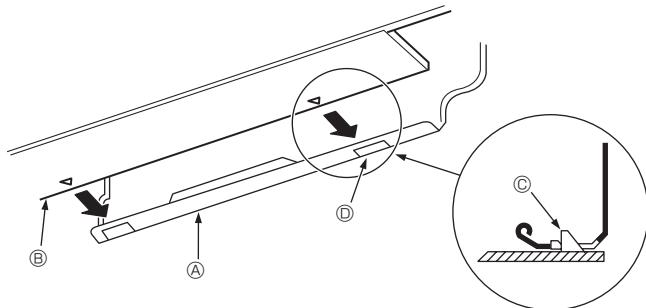

Fig. 3-10
3. While inserting the refrigerant piping and drain hose into the wall penetration hole (penetration sleeve), hang the top of the indoor unit to the mount board ①.
5. Fasten by pushing the bottom part of the indoor unit onto the mount board ①. (Fig. 3-10)
- * Check that the knobs on the bottom of the indoor unit are securely hooked into the mount board ①.
- ④ Mount board ①
⑤ Indoor unit
⑥ Hook
⑦ Square hole